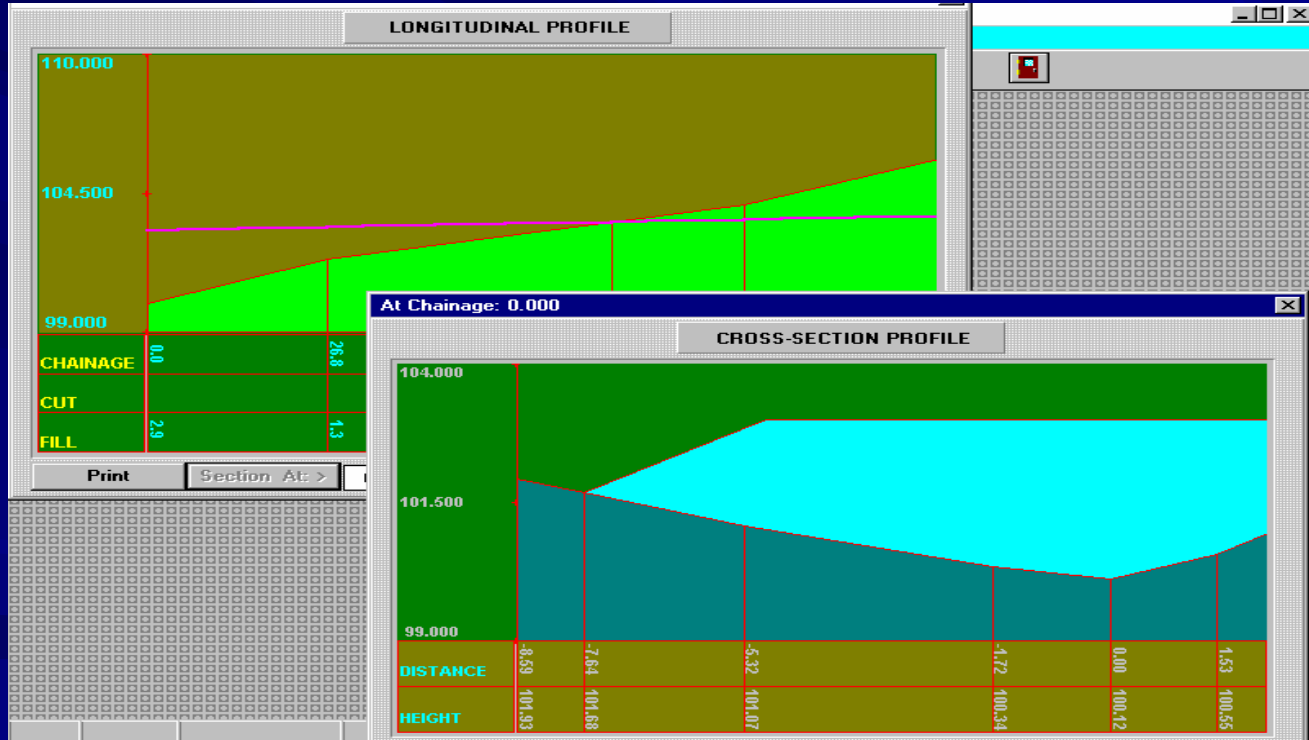

Fig. 8-2
- Graphic output, Fig. 8.2, sent to a printer is excellent.